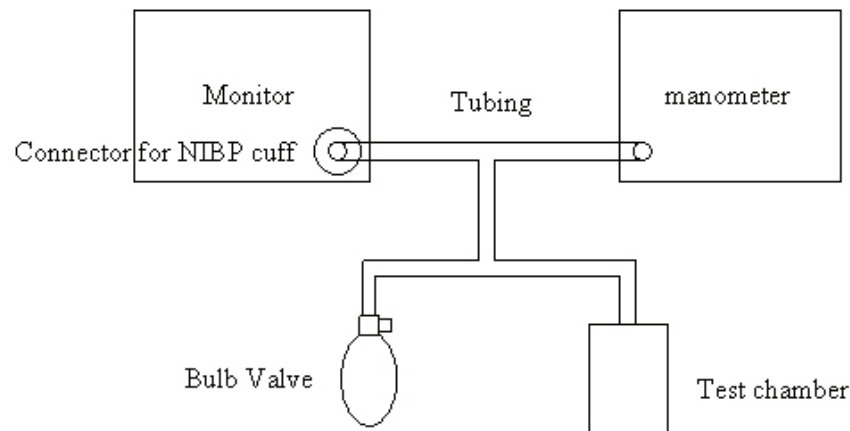

FIGURE 5-4 NIBP Accuracy Test
1. Connect the equipment as shown in FIGURE 5-4.